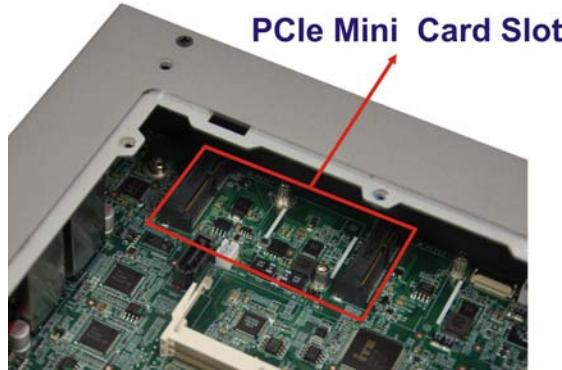

Figure 3-5: PCIe Mini Slot Location
Step 3: Locate the PCIe Mini slot (**Figure 3-5**).